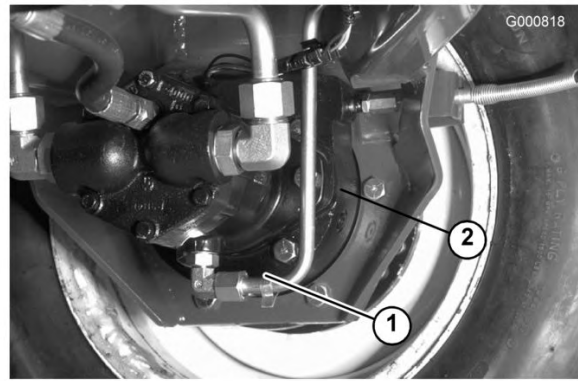

Figure 66
2. Remove the plug on the planetary (Figure 65) and the check plug on the back side of the brake (Figure 66).